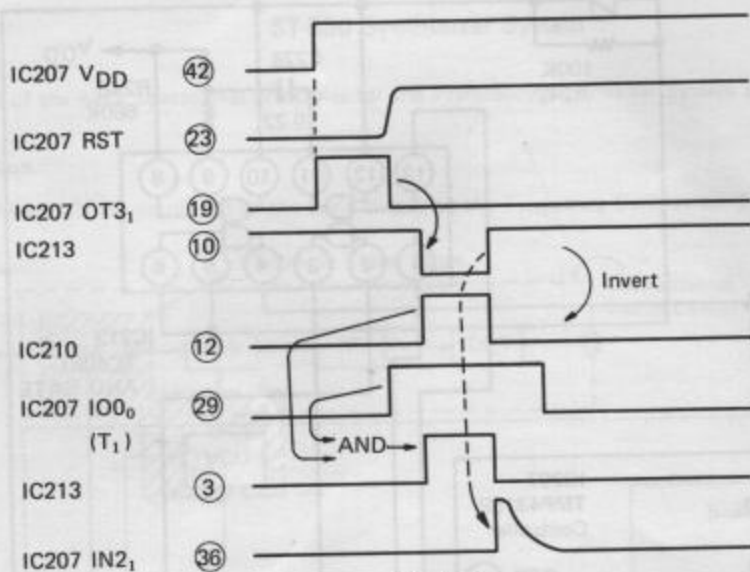

Figure 5.
- (1) When the power is first switched on, V_{DD} is established immediately on pin ④② of IC207.
- (2) The voltage applied to pin ②③ is delayed by the R224/C218 time constant.
- (3) During this period, all outputs become "H" level, resulting in the voltage at OT3, ①⑨ changing as shown in Fig. 5.
- (4) The pin ①⑨ output is applied to IC213 where a slightly delayed signal is obtained from the 2 AND GATE circuits and appears at output pin ⑩ of IC213.
- (5) This output signal is passed through IC210 where its polarity is inverted prior to being returned to one of the gates in IC213.
- (6) The timing signals being issued from pin ②⑨ of IC207 are applied to one of the gates in IC213 resulting in an AND output.